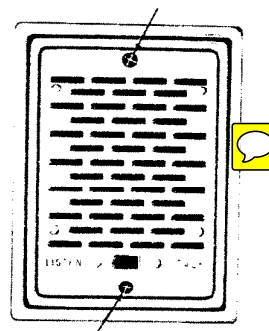

Fig. 9. Model 2006 outside door remote speaker station.
4. Model 2006 3½" speaker (Fig. 9)
2. Align holes in speaker assembly with holes in rough-in frame. Fasten in place with screws provided (Fig. 9).